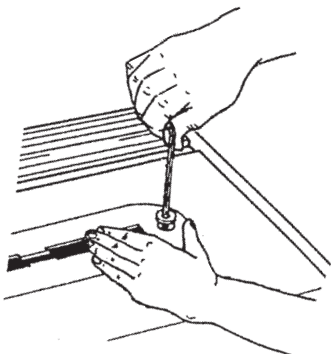

Figure B-79
- 47. First tighten the rear screw. Then the front of the insert will be sprung slightly above the table. Level the insert by placing your hand on the front of the insert, as in Figure B-79, and slowly turning the front screw until it draws the front of the insert flush with the worktable surface.